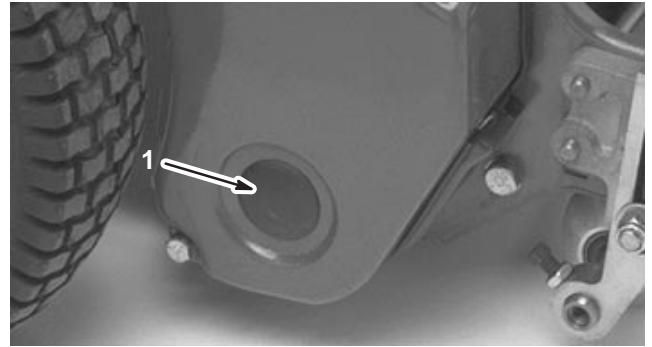

Figure 50
1. Remove the plug in the right reel drive cover (Fig. 50).